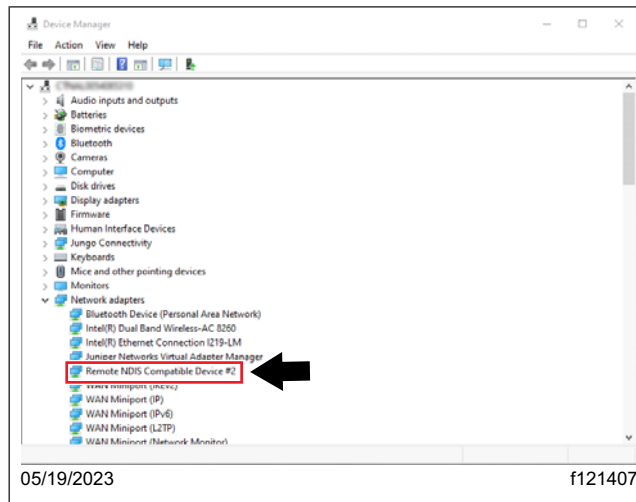

Fig. 19, Laptop Device Manager
7. Connect the hard-wired connection between the SDP5 module and the laptop. Open the laptop device manager, and verify that the 'Remote NDIS Compatible Device #2' is present under the 'Network adapters' dropdown. See Fig. 19.